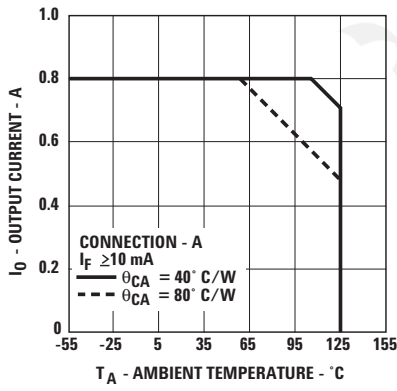
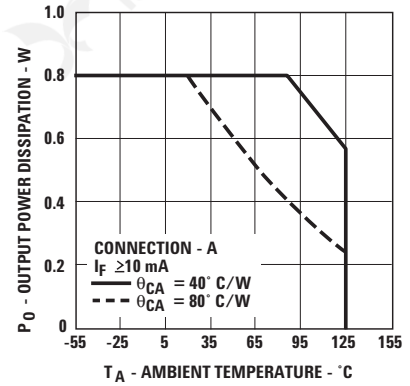

Figure 2. Maximum Average Output Current Rating vs. Ambient Temperature.
Figure 4. Output Power Rating vs. Ambient Temperature.
- For rating, see Figure 4. The output power P_O rating curve is obtained when the part is handling the maximum average output current I_0 as shown in Figure 2.
IN ORDER TO DETERMINE V_{OUT} CORRECTLY, THE CASE TO AMBIENT THERMAL IMPEDANCE MUST BE MEASURED FOR THE BURN-IN BOARDS TO BE USED. THEN, KNOWING θ_{CA} , DETERMINE THE CORRECT OUTPUT CURRENT PER FIGURES 2 AND 4 TO INSURE THAT THE DEVICE MEETS THE DERATING REQUIREMENTS AS SHOWN.
The output on-resistance, R_{ON} , specified in this data sheet, is the resistance measured across the output contact when a pulsed current signal ($I_O = 800 \text{ mA}$) is applied to the output pins. The use of a pulsed signal ($\leq 30 \text{ ms}$) implies that each junction temperature is equal to the ambient and case temperatures. The steady-state resistance, R_{SS} , on the other hand, is the value of the resistance measured across the output contact when a DC current signal is applied to the output pins for a duration sufficient to reach thermal equilibrium. R_{SS} includes the effects of the temperature rise of each element in the thermal model. Rating curves are shown in Figures 2 and 4. Figure 2 specifies the maximum average output current allowable for a given ambient temperature. Figure 4 specifies the output power dissipation allowable for a given ambient temperature. Above 55°C (for $\theta_{CA} = 80^{\circ}\text{C}/\text{W}$) and 107°C (for $\theta_{CA} = 40^{\circ}\text{C}/\text{W}/\text{W}$), the maximum allowable output current and power dissipation are related by the expression $R_{SS} = P_{O(\max)}/(I_{O(\max)})^2$ from which R_{SS} can be calculated. Staying within the safe area assures that the steady-state junction temperatures remain less than 150°C . As an example, for $T_A = 95^{\circ}\text{C}$ and $\theta_{CA} = 80^{\circ}\text{C}/\text{W}$, Figure 2 shows that the output current should be limited to less than 610 mA . A check with Figure 4 shows that the output power dissipation at $T_A = 95^{\circ}\text{C}$ and $I_O = 610 \text{ mA}$, will be limited to less than 0.35 W . This yields an R_{SS} of 0.94Ω .